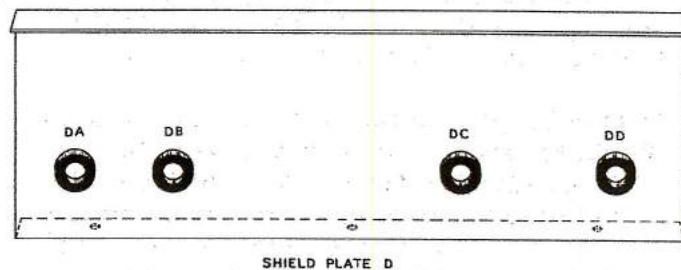

Figure 12
- (✓) Connect the center conductor of the shielded lead from T9 to switch S6 (S).
- (✓) Connect the free end of the 33 μ f condenser from T8 to socket B8 (S). (Use sleeving.)
- (✓) Install a 158.2 K Ω precision resistor from terminal strip K1 (NS) to switch S7 (NS). Note that S7 is a double contact. Place the lead at this end through both contacts.
- (✓) Connect a 10 μ f condenser (brown-black-black or marked) from K1 (S) to S7 (S). Solder both S7 contacts securely.
- (✓) Refer to Figure 12 and install rubber grommets in shield plate D at locations DA, DB, DC and DD. Note that DA and DB are the two holes closest together.